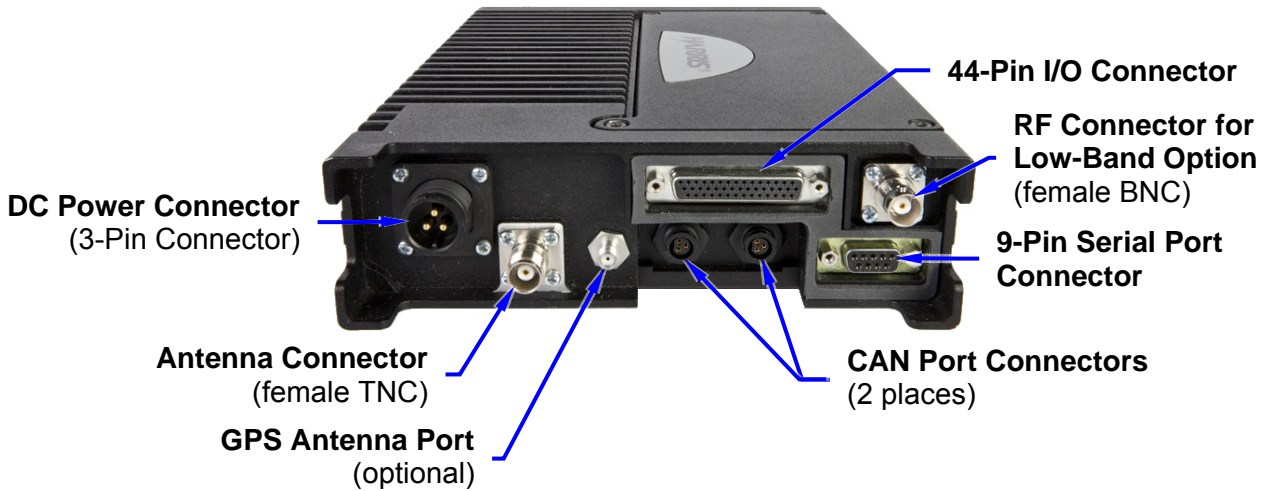

Figure 3-2: Unity XG-100M Front-Mount and Remote-Mount Mobile Radios — Front and Rear Views
- **CH-721 System Model Control Head**— Figure 3-2 on page 18 illustrates the CH-721 System model control head in a front-mount configuration. This head is very similar to the CH-721 Scan model control head. It has an identical 3-line graphical vacuum-fluorescent display. Also, front panel controls are identical to those on the Scan model control head with the exception of the 12-key keypad and smaller menu-related buttons. The 12-key numeric keypad provides Dual-Tone Multi-Frequency (DTMF) functionality and advanced operator system/group selection control via the control head’s front panel. Figure 8-6 on page 57 details all front panel components.